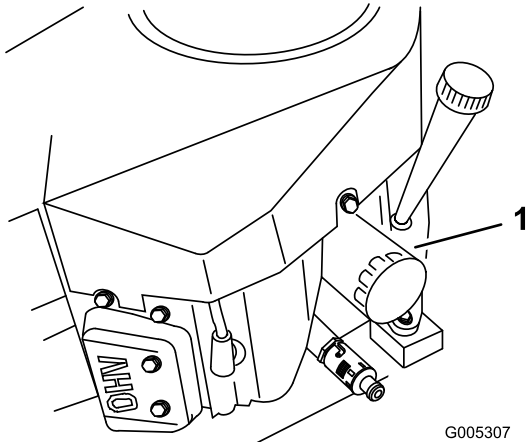

Figure 33
2. Remove the old filter (Figure 33).